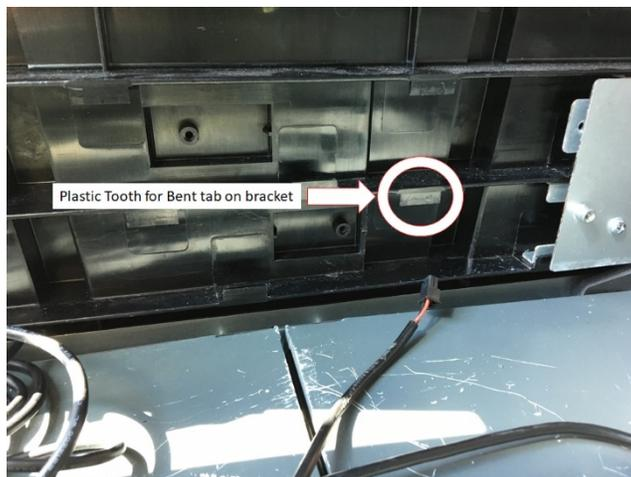
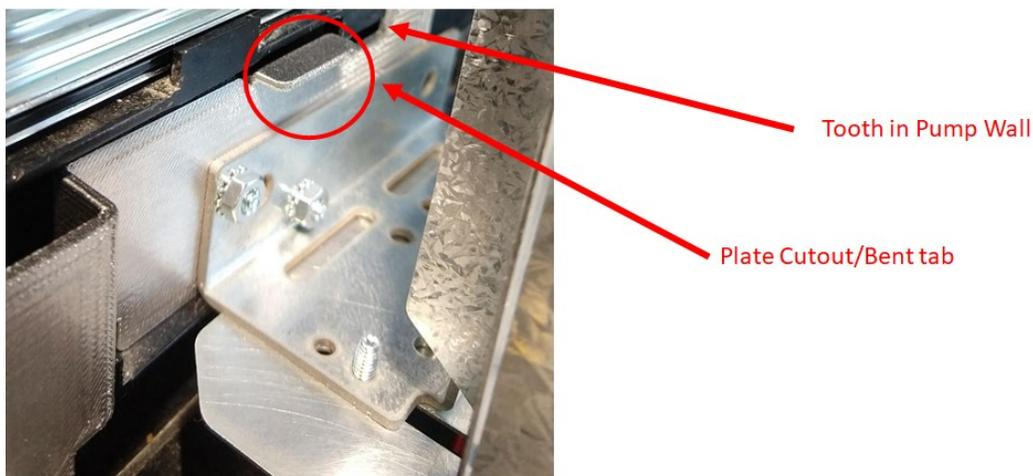

Figure 203
Figure 204
- 15) Install the OPTIC heater mounting plate (497-0524577) by passing the cutout in the plate past the plastic tooth in the pump wall. The bent tab on the top of the bracket will slide behind that tooth to capture the bracket. Figure 203 and Figure 204